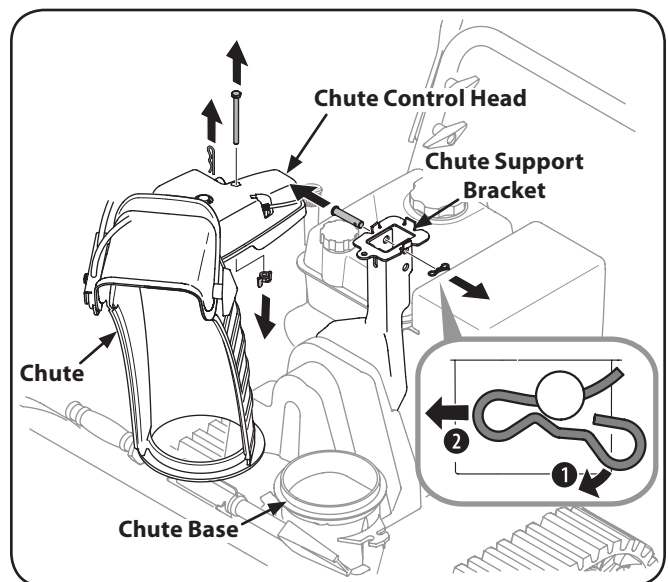

Figure 3-3
1. Remove cotter pin, wing nut and hex screw from chute control head. Remove clevis pin and bow-tie cotter pin from chute support bracket. See Fig. 3-3.
8. Finish securing chute control head to chute support bracket with wing nut, clevis pin, and bow-tie cotter pin removed in step 1. See Fig. 3-3.